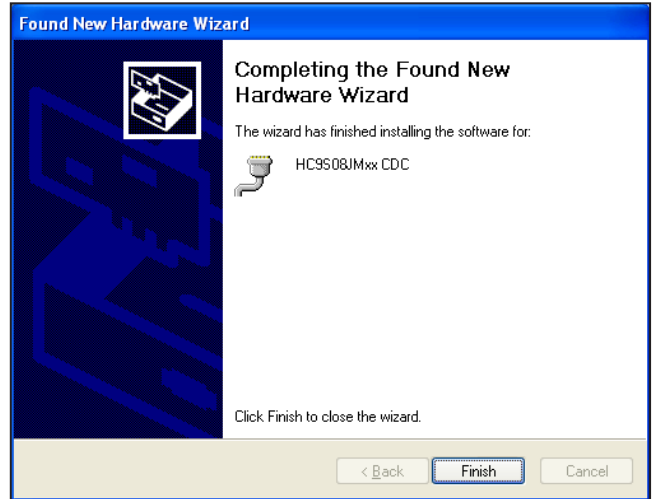

Figure 20. Driver Software Installer Completion
4) Click **Finish** to complete the driver installation and exit the software installer. See Figure 20.